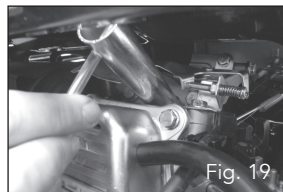

Fig. 19
1. Remove spark plug from the generator with the spark plug spanner (27) supplied (Fig. 19).